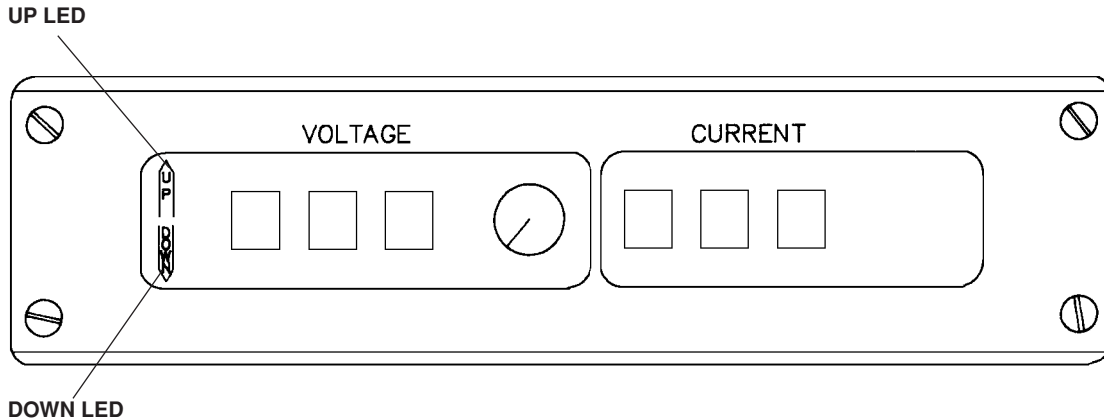

Figure 6-4 Programmable Remote (PR) V/C Front Panel Indicators
### Programmable Remote (PR) V/C Module (Fig. 6-4)